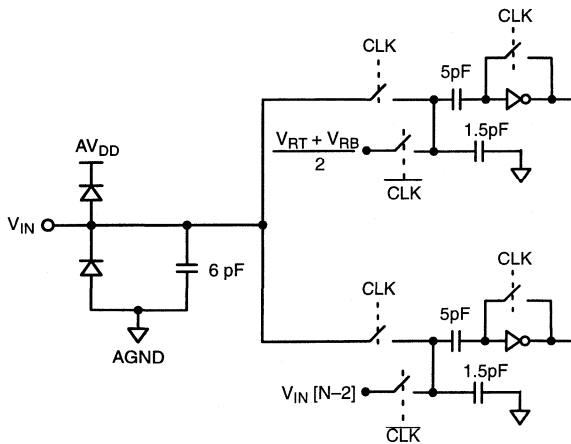

Figure 5. Equivalent Input Circuit
- See V_{IN} input equivalent circuit (Figure 5). Switched capacitor analog input requires driver with low output resistance.
The reference can be biased internally by shorting V_{RT} to V_{RTS} and V_{RB} to V_{RBS} . This will generate $0.6 V$ at V_{RB} and $2.6 V$ at V_{RT} (see Figure 5).